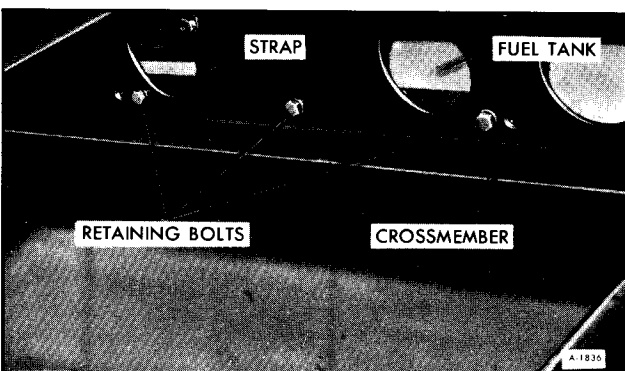

Figure 6—Removing Fuel Tank Strap Bolts
3. Remove 3 bolts from angle at front of tank as shown in Figure 6. If both tanks are to be removed, the forward tank should be completely removed.